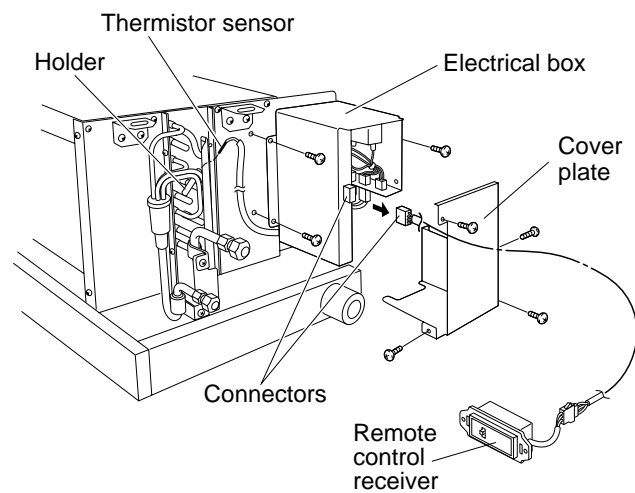

Fig. 1
- (1) Remove 4 screws used to attach the cover plate of the electrical box. Then pull the plate toward you. (Fig. 1)
- (2) Pull the thermistor sensor from its holder. (Fig. 1)
- (3) Remove 3 screws securing the electrical box to the unit. (Fig. 1)
- (4) Disconnect the connectors to disengage the remote control receiver. (Fig. 1)